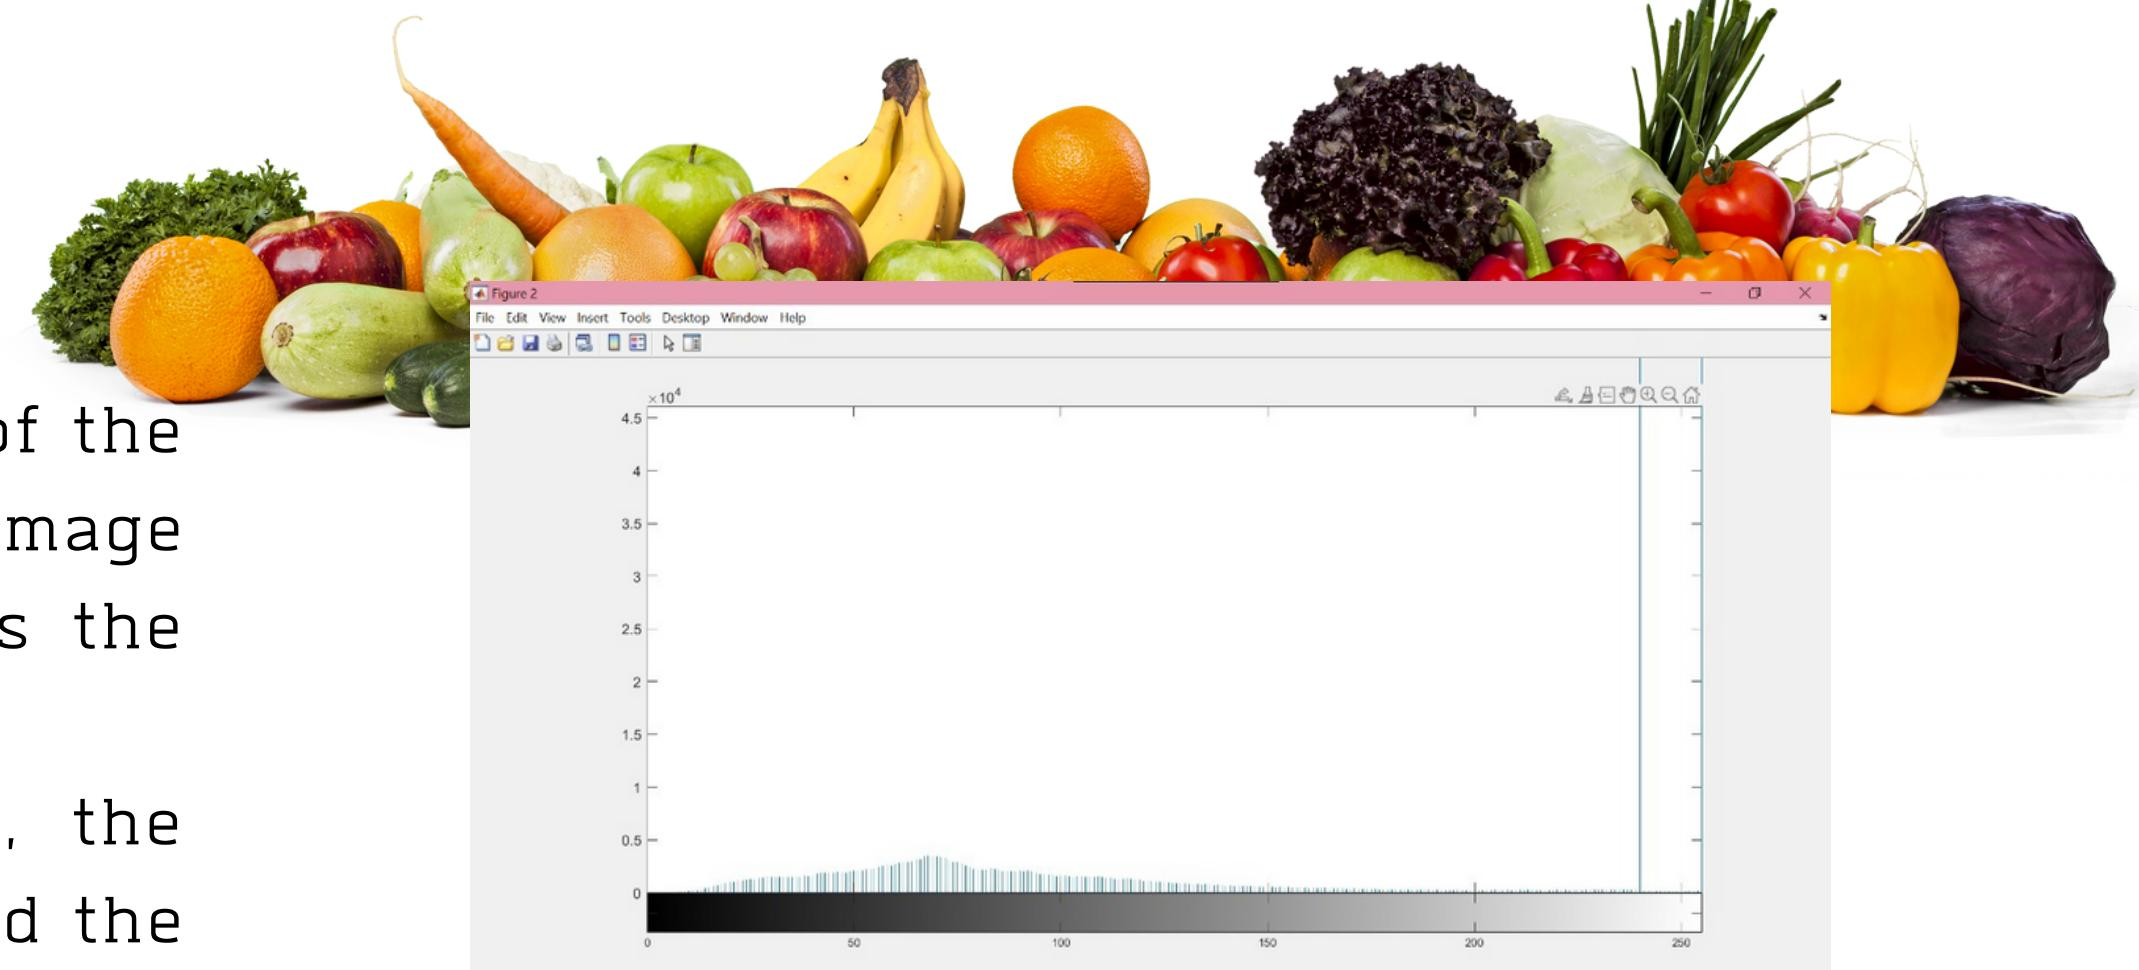

Figure 1: Histogram equalization of the image used
- Figure 1 shows the histogram equalization of the image which shows the intensity values of image pixels. This takes in an image and shows the intensity of the pixels in the image.